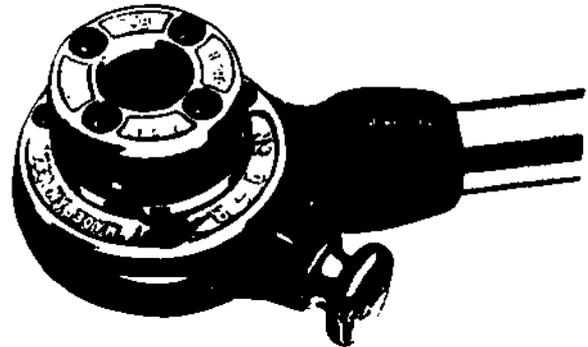

Figure 1-18. Drop-Head Threader
c) A few of the modern types of hand pipe threaders (stocks and dies) are shown in Figures 1-18 to 1-20.
A drop-head threader (Figure 1-18) is used for cutting threads on NPS 1/2 to NPS 2 pipe, or similar threaders for NPS 1/2 to NPS 1 pipe. Die heads must be changed for different pipe sizes.